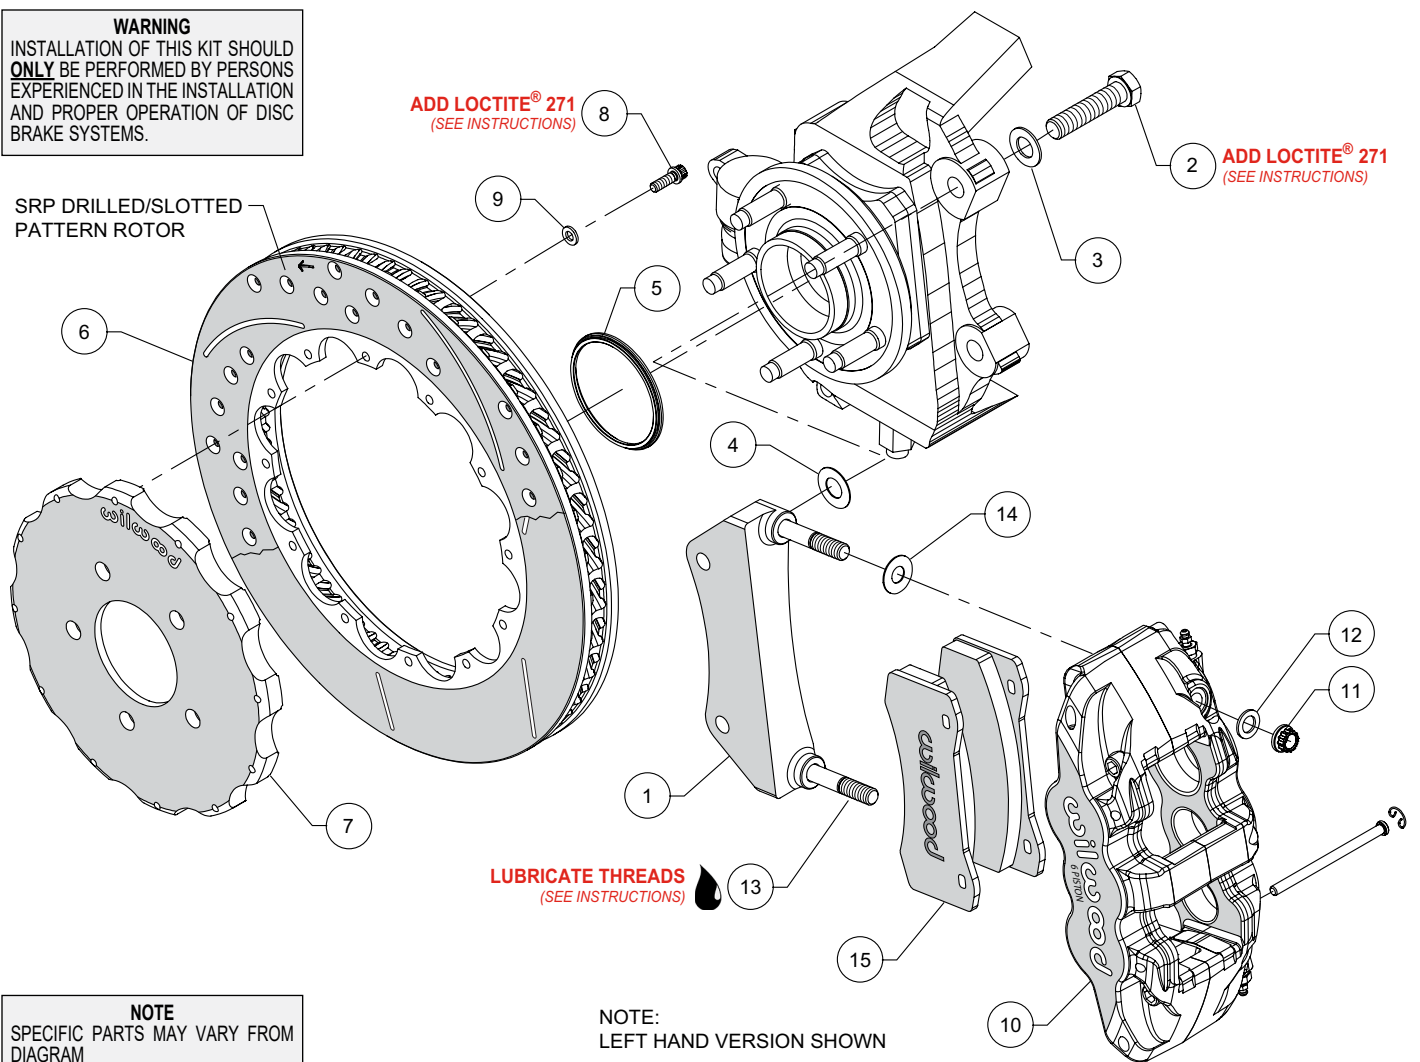
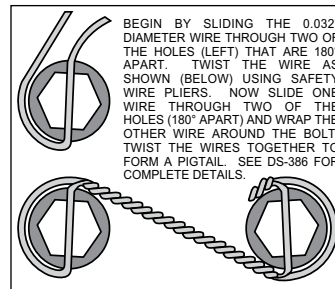

Figure 1. Typical Installation Configuration
Figure 3. Safety Wire Diagram
NOTE: Numbers in parenthesis refer to the parts list and Figure 1 on the preceding pages.
- The caliper mount bracket (1) should initially be installed with clean, dry threads on the mounting bolts. Orient the bracket as shown in Figure 1 and Photo 1, and install using bolts (2) and washers (3). Initially place one .029 thick shim (4) on each bolt between the bracket and upright, Figure 1. Temporarily tighten the mounting bolts. **NOTE:** *The bracket must fit squarely against the mounting points on the upright.* Inspect for interference from casting irregularities, machining ridges, burrs, etc. Later, after the caliper alignment has been checked, the mount bolts will be secured using red *Loctite*® 271.
- Orient the rotor (6) and the hat (7) as shown in Figure 1 and Photo 2. Attach rotor to hat using bolts (8) and washers (9). Apply red *Loctite*® 271 to the bolt threads and torque to 155 in-lb using a criss-cross pattern. For an added measure of security, the bolts may be safety wired using standard 0.032 inch diameter stainless steel safety wire as shown in Figure 3. Please refer to Wilwood's data sheet DS-386 (available at www.wilwood.com/Pdf/DataSheets/ds386.pdf) for complete safety wire installation instructions.
- NOTE:** *This kit contains distinct right and left hand calipers that must be mounted in a specific direction, as described below.* Lubricate the caliper mounting studs (13) with lightweight oil. Initially place one .030" thick shim (14) on each stud between the caliper and the bracket, as shown in Figure 1 and Photo 5. Mount the caliper (10) onto the bracket (1) using lock nuts (11) and washers (12), Figure 1. Ensure that the caliper is mounted so the largest pistons are at the rotor exit end of the caliper, in relation to the direction of rotor rotation. Temporarily tighten the lock nuts and view the rotor through the top opening of the caliper. The rotor should be centered in the caliper, Photo 6. If not, adjust by adding or subtracting shims (4) between the bracket and the upright. Always use the same amount of shims on each of the two mounting bolts. Once the caliper alignment is correct, remove the bracket mounting bolts (2) one at a time, apply red *Loctite*® 271 to the threads, and torque to 77 ft-lbs.
- Remove the two pad retaining pins from the caliper (10) by carefully popping out the pin retaining clips and sliding out the pins. Insert the brake pads (15) into the caliper from the bottom, Figure 1 and Photo 7. With the friction material facing the rotor, secure the brake pads in place with the pad retaining pins and clips, Photo 8. Reinstall the caliper onto the caliper mounting bracket and temporarily tighten the lock nuts (11). Check that the top of the brake pad is flush with the outside diameter of the rotor, Photo 9. If not, adjust by adding or subtracting shims (14) between the caliper and the bracket. After the caliper pad height is set, torque the caliper lock nuts (11) to 47 ft-lb.